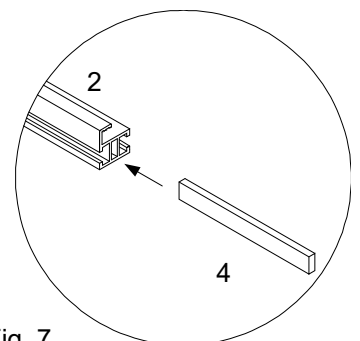

Fig. 7
- Finally check that all clamps (5) and screws (6, 7 and 9) are tightened completely.
- In case of supporting profiles (2) have to be combined the connection piece (4) is pushed into the nut of the supporting profile (2) as illustrated in Fig. 7.